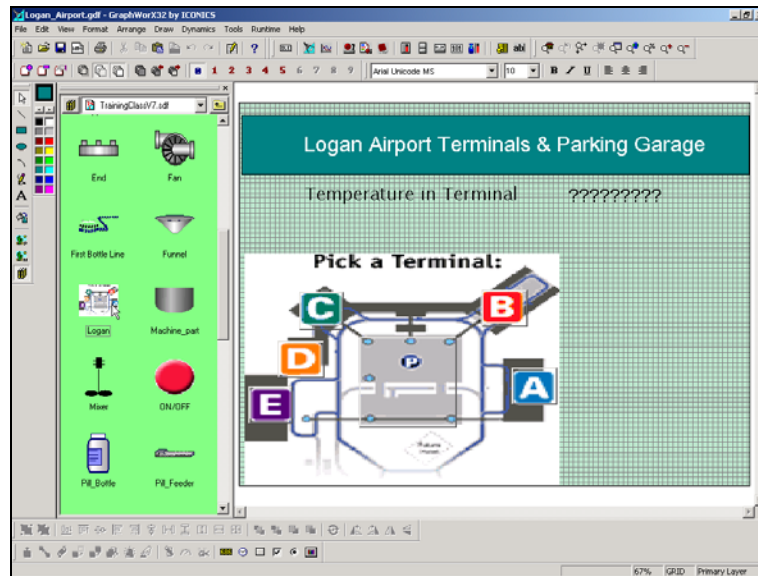

Figure 5.19
- From the **Symbols Library**, drag and drop the **Logan** image onto the GraphWorX32 workspace so that it looks like **Figure 5.19**.